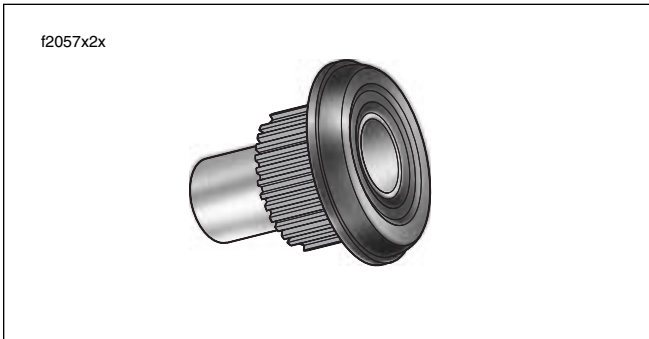

Figure 2-125. Remove Spacer From Lower Bushing
7. Pull bushing and spacer from fork bracket bore. Remove spacer from bushing. See **Figure 2-125**. Discard bushing.
12. Pull bushing and spacer from fork bracket bore. Remove spacer from bushing. See **Figure 2-125**. Discard bushing.
1. Insert spacer into **new** bushing until flush with outboard side of collar. See **Figure 2-125**.
7. Insert spacer into **new** bushing until flush with outboard side of collar. See Figure 2-125.